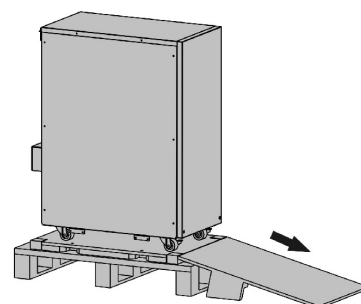

Fig. 7.
- ❑ Put the ramp as figure 7 and download the equipment from the pallet.